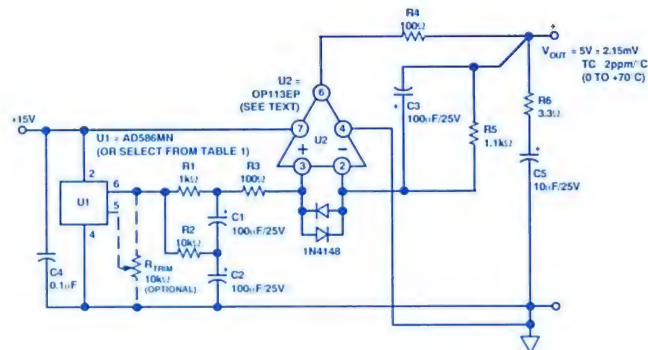

Figure 17: Low-noise 2.5/5/10-V reference.
**Low noise 2.5/5/10-V reference:** As noted earlier, voltage reference noise can contribute to system error. But the output of a reference can be buffered and filtered to effectively lower wideband noise by an order of magnitude or more.[18] For example, the low-noise reference circuit of Figure 17, using simple filtering, combines good ac and dc performance. It comprises a reference, U1, and a low-noise, buffered output circuit. Final output noise is largely determined by U2, and can range from under 2 nV/ $\sqrt{\text{Hz}}$ , to 20 nV/ $\sqrt{\text{Hz}}$  or more at 1 kHz, depending on the device.